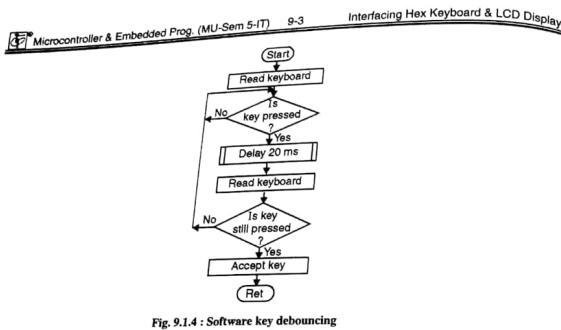

Fig. 9.1.4 : Software key debouncing
- The process of software key debouncing is as shown in Fig. 9.1.4.